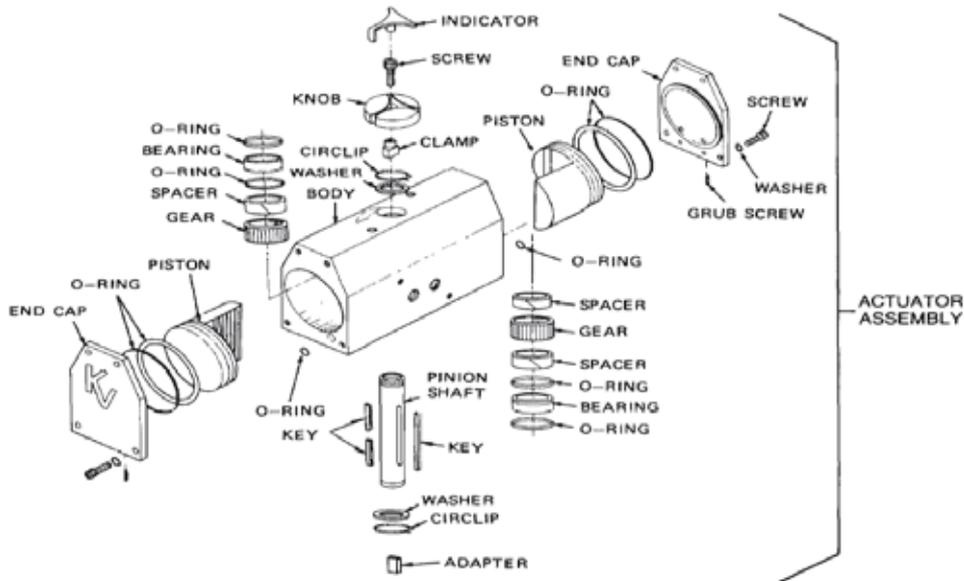

Figure 37 Keystone Valve Actuator – Exploded View
- Remove the four screws and washers securing each end-cap to the actuator body and remove the end-caps (Figure 37).
- j. Position the pistons (orientated as shown in Figure 37), in the actuator body then push the pistons into the bore until the piston racks mate with the gear teeth.